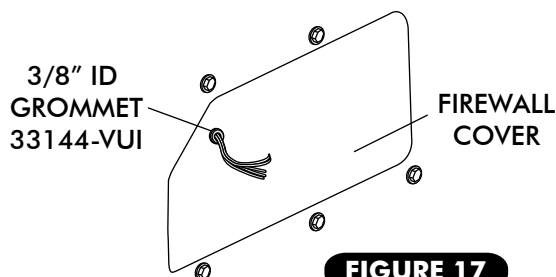

FIGURE 17
- ☐ INSTALL 3/8" ID GROMMET. SEE FIGURE 17.
- ☐ ROUTE A/C WIRES THROUGH 3/8 ID GROMMET AS SHOWN ON FIGURE 17 (12 VOLT/ GROUND/ BINARY SWITCH/ HEATER VALVE).